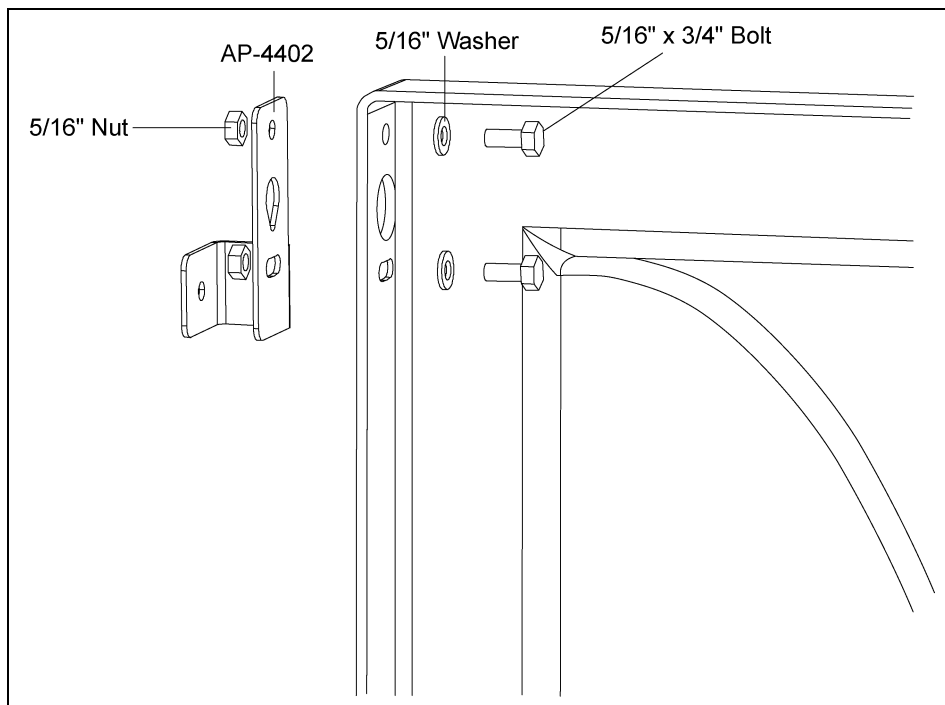
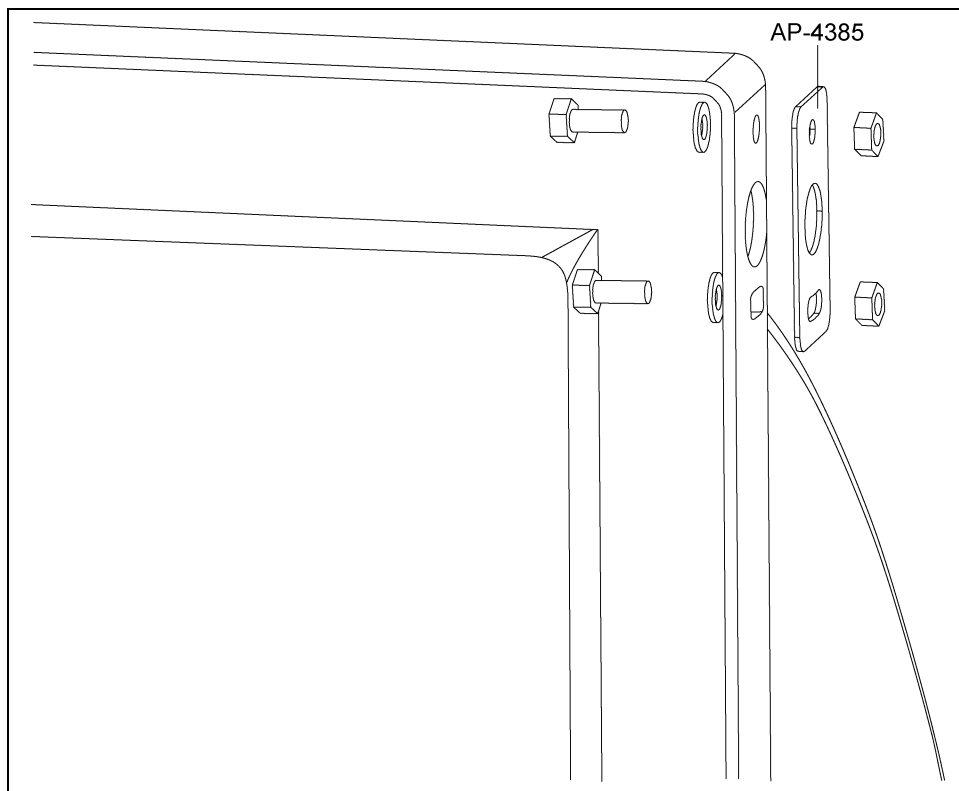

Figure 2D
Figure 2E
Step 3: Install the brackets AP-4402 and AP-4385 using the provided hardware. (See Figure 2D below and Figure 2E on Page 9.)